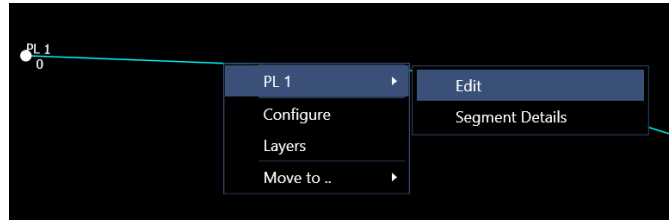

FIGURE 9-21 PIPELINES – MAP EDIT – POP-UP MENU
1. Right click on a pipeline in the Map View to bring up the Pop-Up menu (see Figure 9-21)